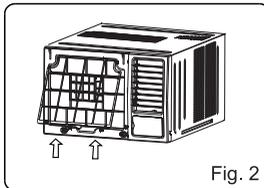

Fig. 2
2. Pinch the handle under the air filter and make the air filter arched, remove it from the slot from underside to upside (See Fig.2).
1. Install the air filter into the frame's slot from upside to underside. (see Fig.2)